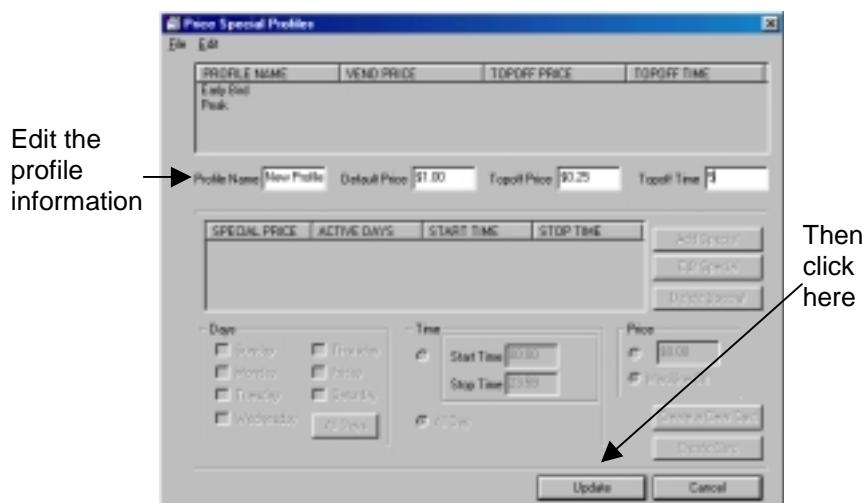

Figure 8.19 Editing the Profile Information
3. Edit the profile information: profile name, default price (price when no special is in effect), Top Off price and time (for dryers only)(Figure 8.19).
4. Click the Update button (Figure 8.19).